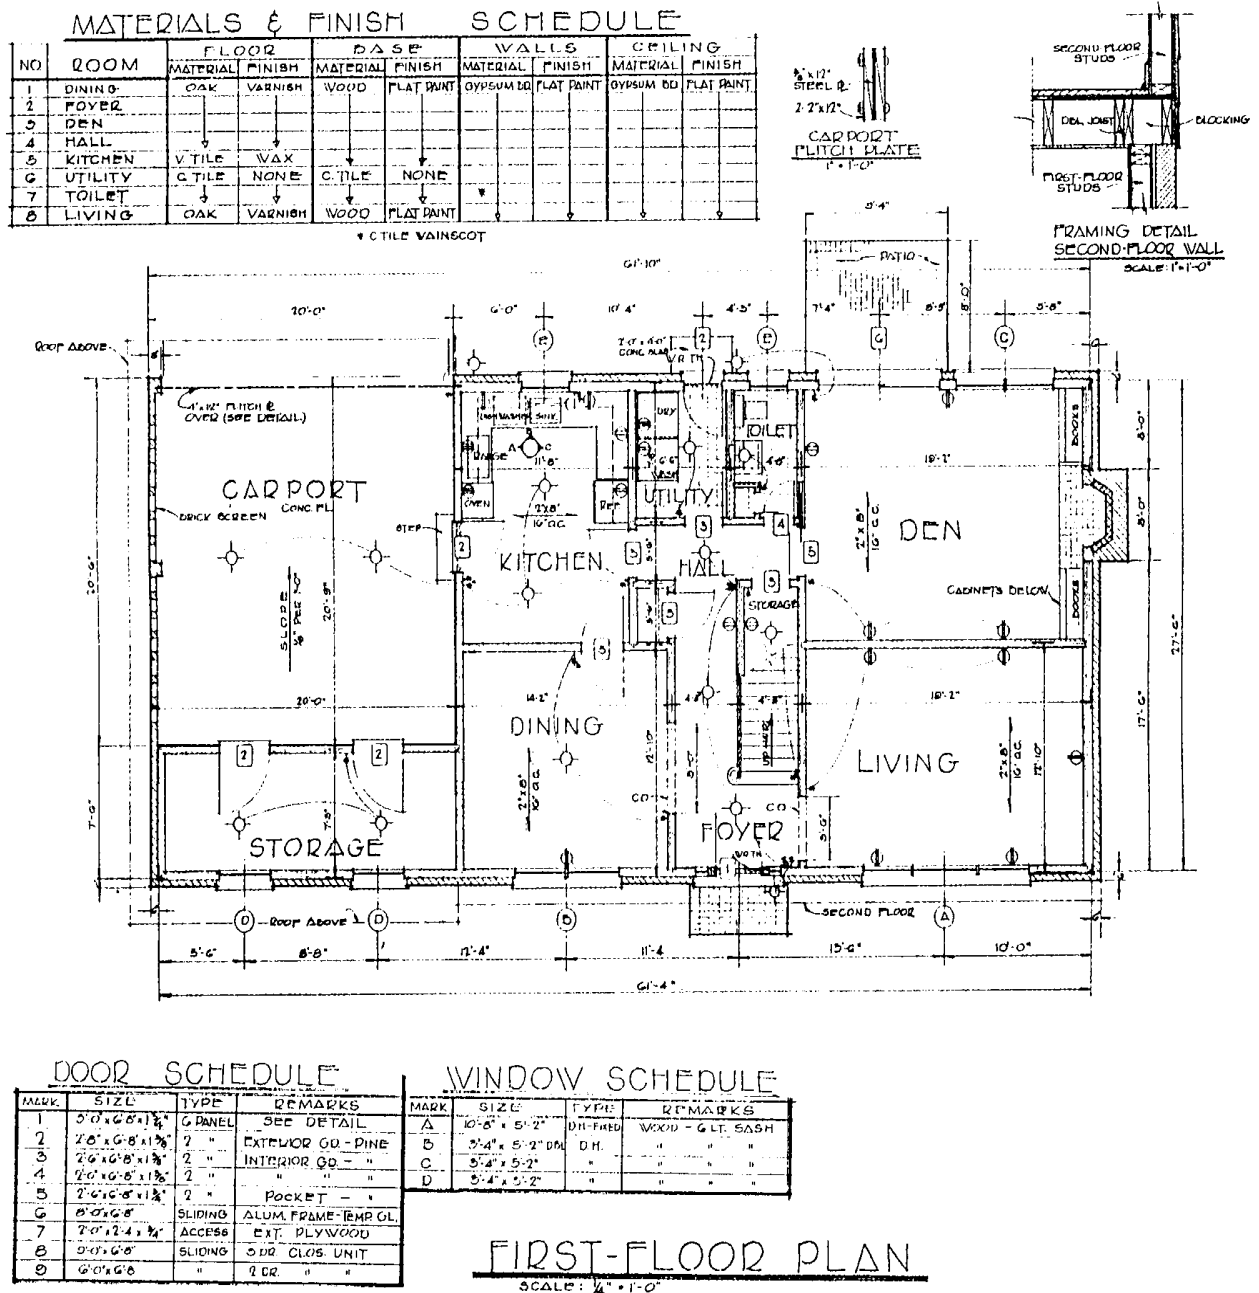

Figure 3, Floor Plan
- **Floor Plan.** View as seen from above. This is a key drawing from which the building's walls are laid out. Provides building dimensions, utility placements, interior wall, window, and door locations (See Figure 3, Floor Plan).
- **Schedules.** The four most common schedules are material schedules, door and window schedules, and finish schedules. (See Figure 3, Floor Plan)